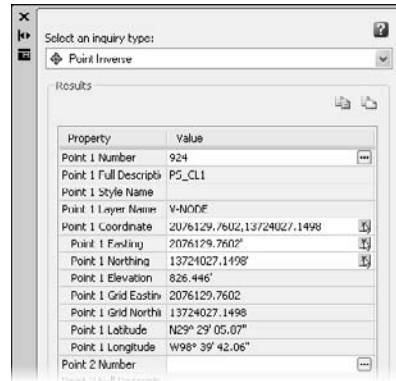

Figure 2.3
- Click the ellipsis button near the top right, and then select the text or point symbol near point number 924 to make your display appear as shown in Figure 2.3.